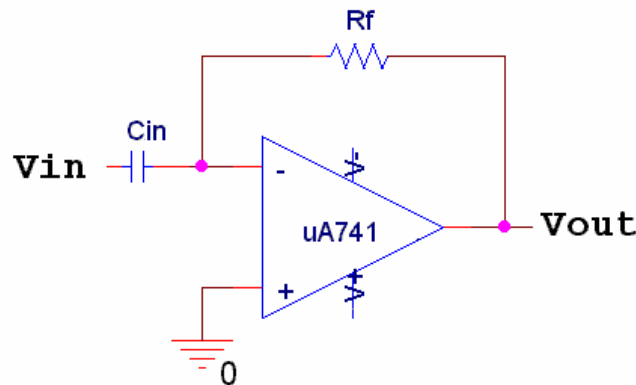

Figure C-1
*Ideal Differentiator:* Figure C-1 shows an *ideal differentiator*. Its behavior is governed by the following equation:  $V_{out} = -R_f C_{in} \left( \frac{dV_{in}}{dt} \right)$ .